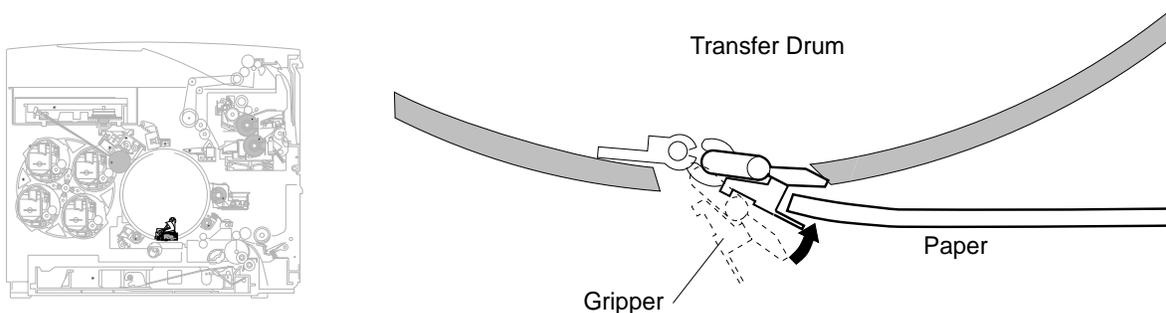

Figure 2-9: The Gripper
- A mechanical gripper (Figure 2-9), which holds the leading edge of the page. Because of the gripper, the first 8 mm of the leading edge cannot be printed on. The gripper is part of the transfer drum and rotates with it. In figure 2-9, the gripper is shown at the bottom of the transfer drum, in position to pick up a piece of paper.